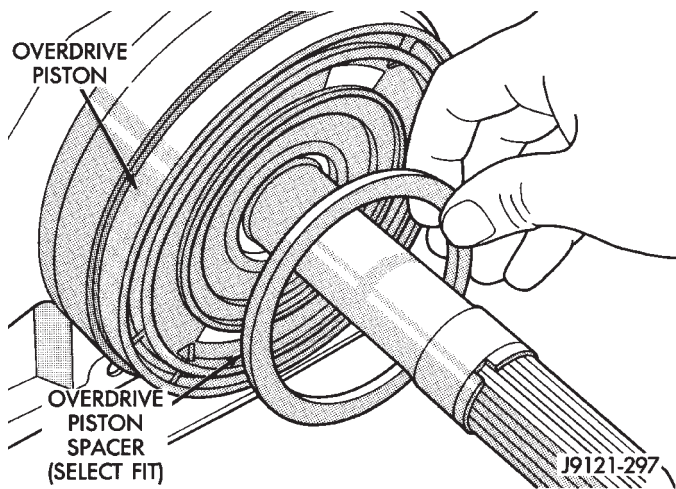

Fig. 184 Overdrive Piston Thrust Plate Removal/Installation
(1) Remove overdrive piston thrust plate (Fig. 184). Retain thrust plate. It is a select fit part and may possibly be reused.